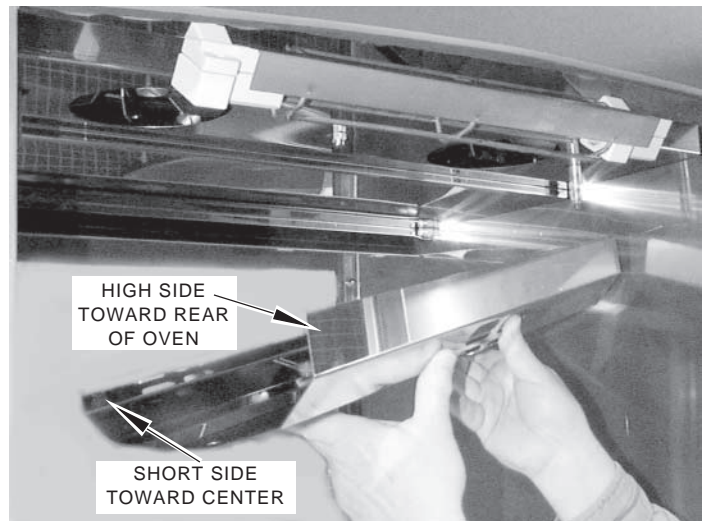

Fig. 56
11. Working from rear of oven, position high side of vent-grate toward rear of oven, short side faces center of oven (Fig. 56).